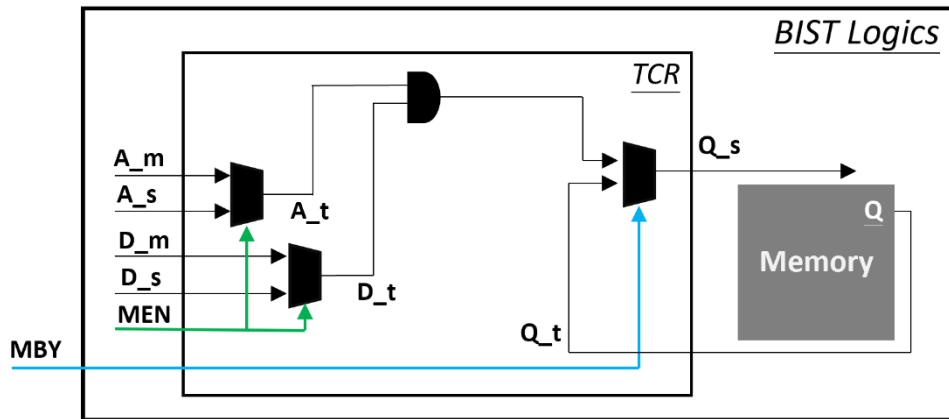

Figure 3-18 Implementation of Bypass Circuit by Wire
- Wire: Implement the bypass circuit by wire as Figure 3-18